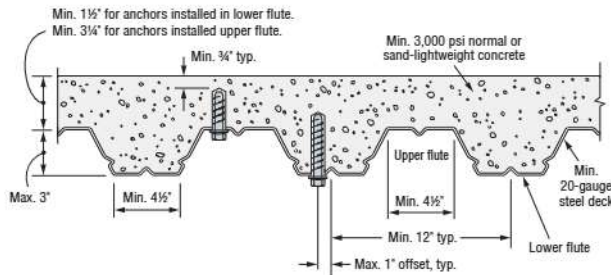

Figure 1. Installation of ⅜"- and ½"-Diameter Anchors in the Soffit of Concrete over Steel Deck
- For anchors installed in the soffit of sand-lightweight or normal-weight concrete over steel deck floor and roof assemblies, as shown in Figure 1 and Figure 2, calculation of the concrete breakout strength may be omitted.